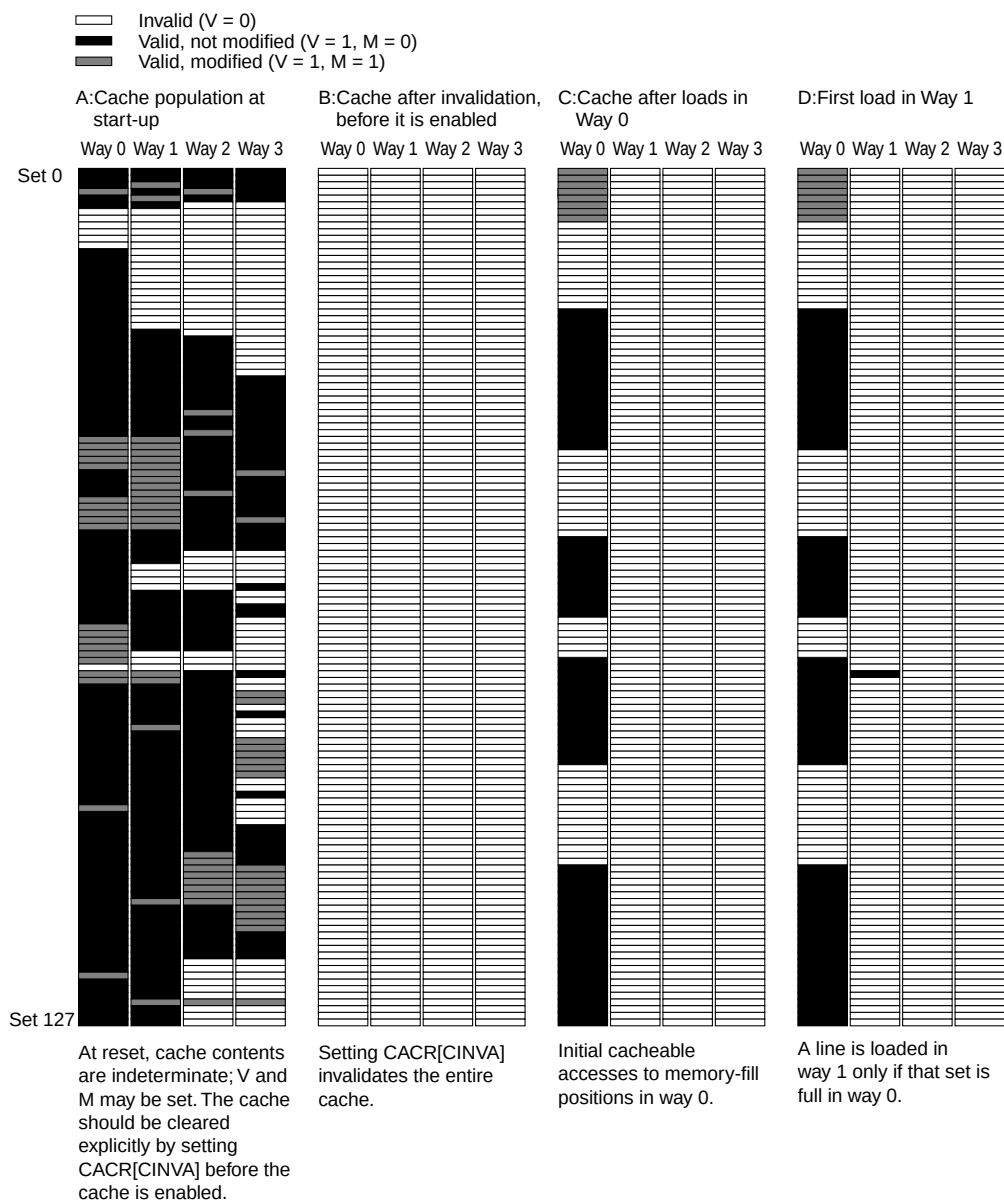

**Figure 4-4. Cache—A: at Reset, B: after Invalidation, C and D: Loading Pattern**
As Figure 4-4 (A) shows, after power-up, cache contents are undefined; V and M may be set on some lines even though the cache may not contain the appropriate data for start up. Because reset and power-up do not invalidate cache lines automatically, the cache should be cleared explicitly by setting CACR[CINVA] before the cache is enabled (B).
After the entire cache is flushed, cacheable entries are loaded first in way 0. If way 0 is occupied, the cacheable entry is loaded into the same set in way 1, as shown in Figure 4-4 (D). This process is described in detail in Section 4.9, “Cache Operation.”
Reset disables the cache and clears all CACR bits. As shown in Figure 4-4, reset does not automatically invalidate cache entries; they must be invalidated through software.